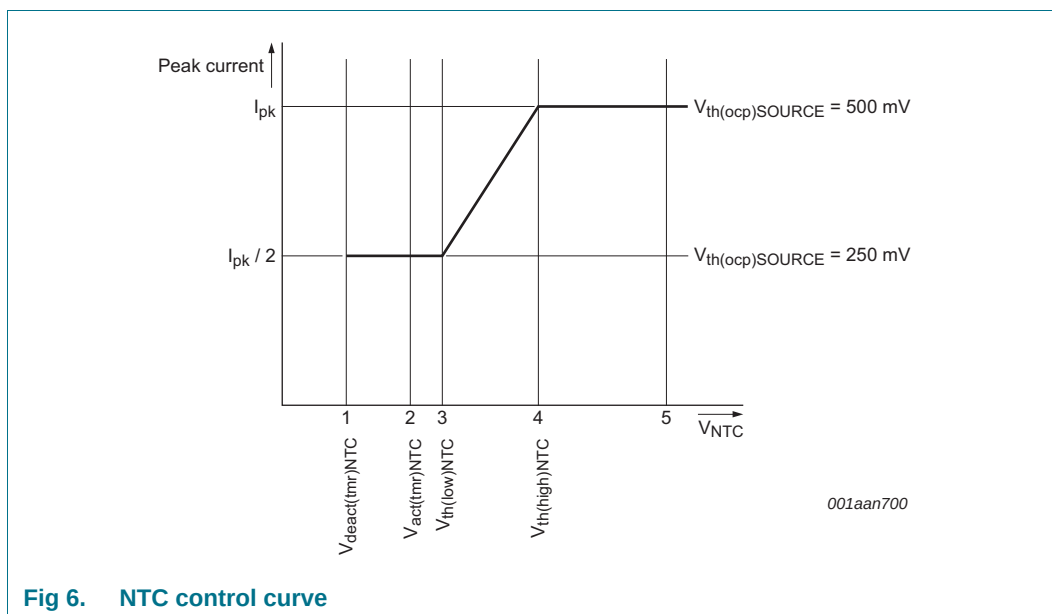

Fig 6. NTC control curve
The NTC pin can be used as a control method for LED thermal protection. Alternatively, the pin can be used as an input to disable/enable light output using a digital signal (PWM dimming). The pin has an internal current source that generates the current of $I_{\text{offset(NTC)}}$. An NTC resistor to monitor the LED temperature can be directly connected to the NTC pin. Depending on the resistance value and the corresponding voltage on the NTC pin, the converter reacts as shown in Figure 6.
When the voltage on the NTC pin is higher than $V_{\text{th(high)NTC}}$ see Figure 6 (4), the converter delivers nominal output current. When the voltage is lower than this level, the peak current is gradually reduced until $V_{\text{th(low)NTC}}$ is reached, see Figure 6 (3). The peak current is now half the peak current of nominal operation. When $V_{\text{act(tmr)NTC}}$ is passed, see Figure 6 (2) a timer starts to run to distinguish between the following situations:
- If the low-level $V_{\text{deact(tmr)NTC}}$ is not reached within time $t_{\text{to(deact)NTC}}$, Figure 6 (1) LED overtemperature is detected. The IC stops switching and attempts to restart from the HV pin voltage. Restart takes place when the voltage on NTC pin is higher than $V_{\text{th(high)NTC}}$, see Figure 6 (4). It is assumed that the reduction in peak current did not result in a lower NTC temperature and LED OTP is activated.
- If the low-level $V_{\text{deact(tmr)NTC}}$ is reached within the time $t_{\text{to(deact)NTC}}$, Figure 6 (1) it is assumed that the pin is pulled down externally. The restart function is not triggered. Instead, the output current is reduced to zero. PWM dimming can be implemented this way. The output current rises again when the voltage is higher than $V_{\text{deact(tmr)NTC}}$.
The NTC pin can be used to make a soft start function. During switch-on, the level on the NTC pin is low. By connecting a capacitor (in parallel with the NTC resistor), a time constant can be defined. The time constant causes the level on the NTC pin to increase slowly. When passing level $V_{\text{th(low)NTC}}$ Figure 6 (3), the convertor starts with half of the maximum current. The output current slowly increases to maximum when $V_{\text{th(high)NTC}}$ Figure 6 (4) is reached.